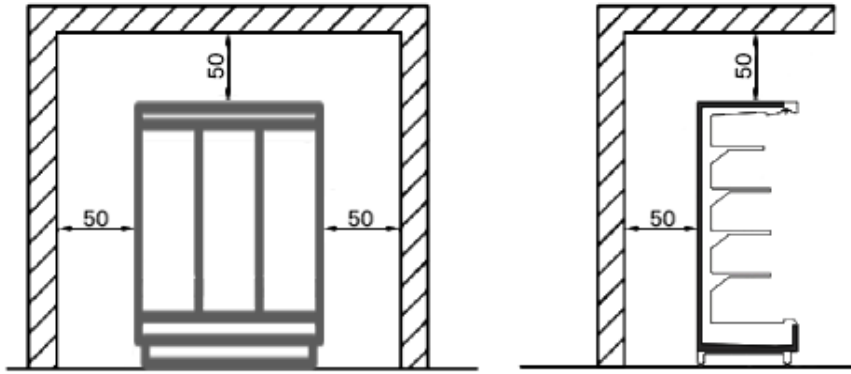

Fig. 13. Placement of a multideck in a niche
- the minimum required technological gap between the display cabinet and the wall is 50 mm. The placement of the multideck in a niche should provide free access to the control unit for maintenance purposes (Fig. 13);